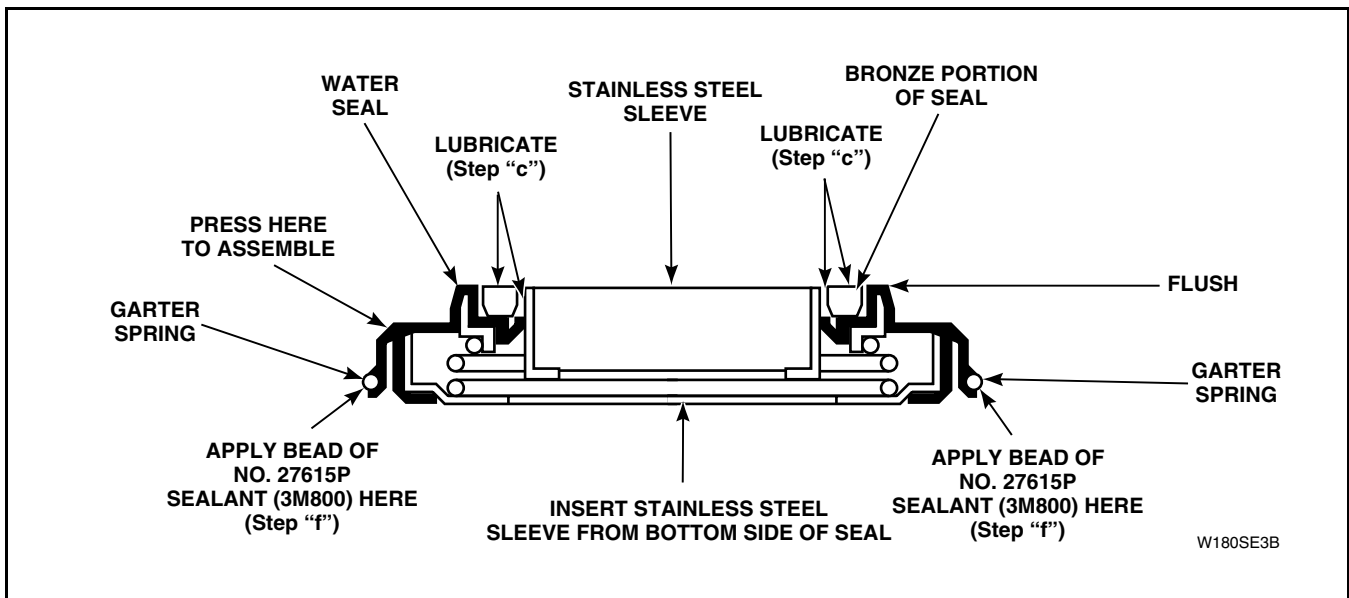

Figure 52
- c. Apply a light film of nonstaining petroleum jelly (such as Vaseline®) to bronze portion of water seal and to outer surface of stainless steel sleeve. Refer to *Figure 52*.
- d. Insert stainless steel sleeve into water seal from bottom of water seal, Refer to *Figure 52*, until stainless steel sleeve is flush with bronze portion of water seal.
- f. Carefully apply a small amount of No. 27615P Sealant (3M800) around outer edge of water seal and tub (area located just below garter spring). Refer to *Figure 52*. Obtain sealant from local parts distributor.